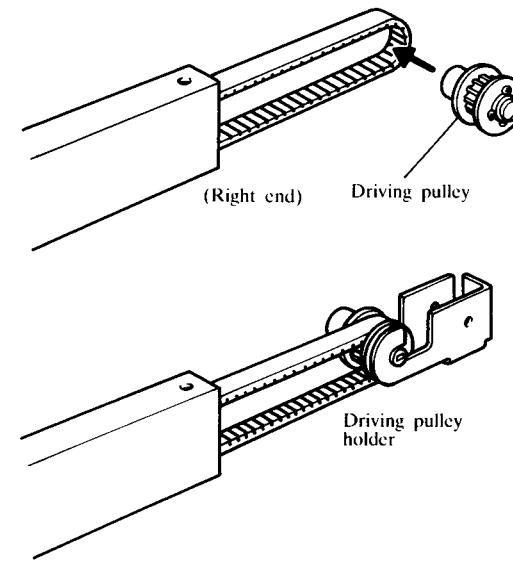

Fig. 81
- (2) Set the Driving pulley to the Driving belt, then set the pulley in the holder. (Refer to Fig. 81)